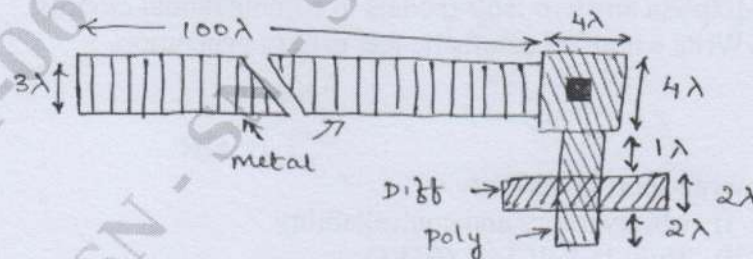

Fig.Q4(b)
- Calculate the capacitance of the structure given below in Fig.Q4(b). (10 Marks)